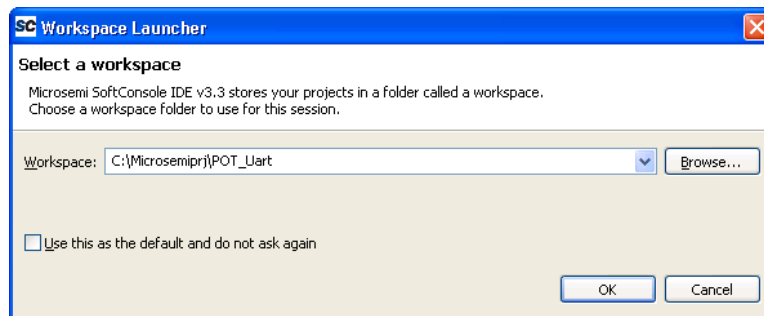

Figure 1 Specifying the SoftConsole Workspace
2. The **SoftConsole Workspace Launcher** is displayed as shown in Figure 1. Click **Browse** on the SoftConsole Workspace Launcher to navigate to your preferred location (where you will create your project), or enter the location of your workspace. For example: C:\Microsemiprj\POT_Uart). Click **OK**.